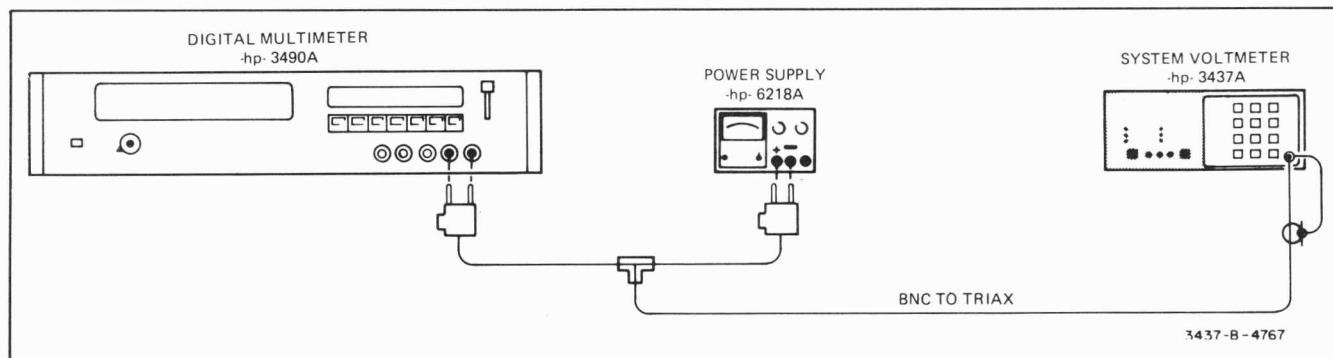

Figure 5-9. Overload Display Test Set-Up.
- a. Connect the equipment as illustrated in Figure 5-9.